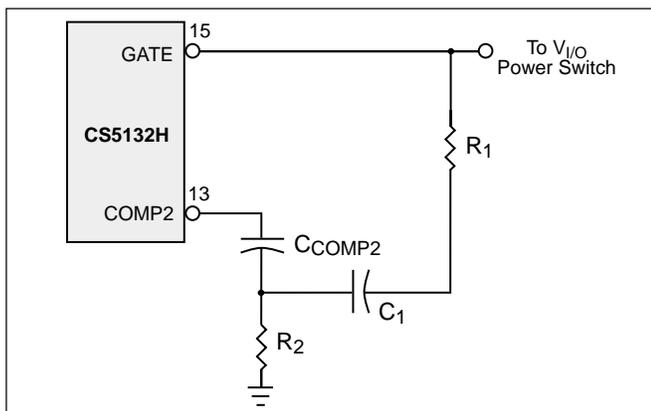

**Figure 6:** Small RC filter provides the proper voltage ramp at the beginning of each on-time cycle.
The circuit that implements this function for the synchronous regulator section ( $V_{CC(CORE)}$ ) is shown in Figure 6.
The ramp waveform is generated through a small RC filter that provides the proper voltage ramp at the beginning of each on-time cycle. The resistors  $R_1$  and  $R_2$  in the circuit of Figure 6 form a voltage divider from the GATE(L) output, superimposing a small artificial ramp on the output of the error amplifier.